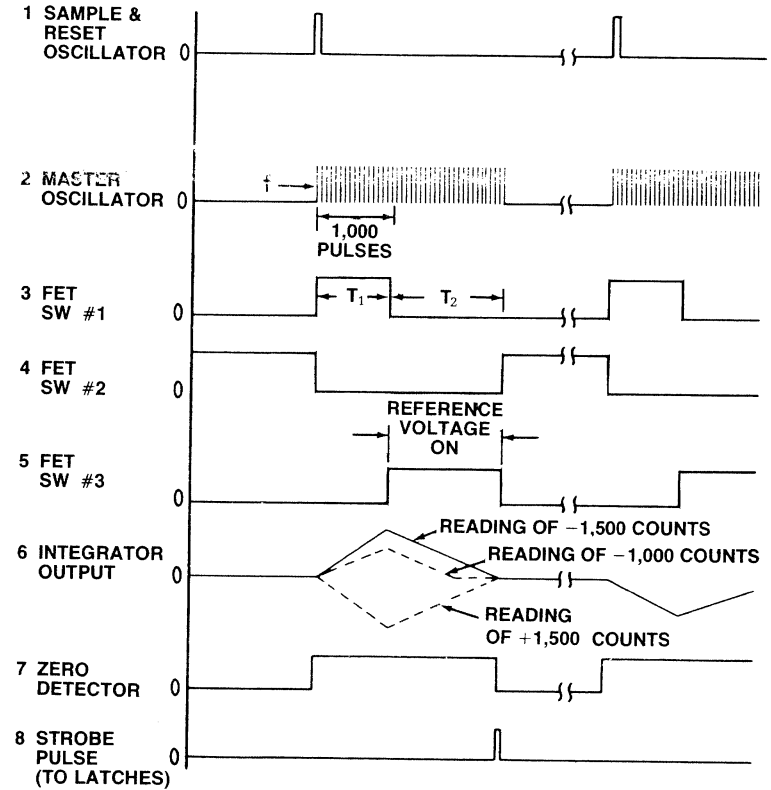

Figure 5-5. Simpson 360-2, Basic Timing Diagram
5.3.2 The “Up-Down” A/D Converter requires two periods of integration for each measurement. The input signal (E_{in}) is integrated on the “up” slope during the first period; the reference voltage is integrated on the “down” slope of the second period. The first period starts with a pulse initiated by the Sample & Reset Oscillator which generates three pulses per second as shown in (1) of the Basic Timing Diagram (Figure 5-5).